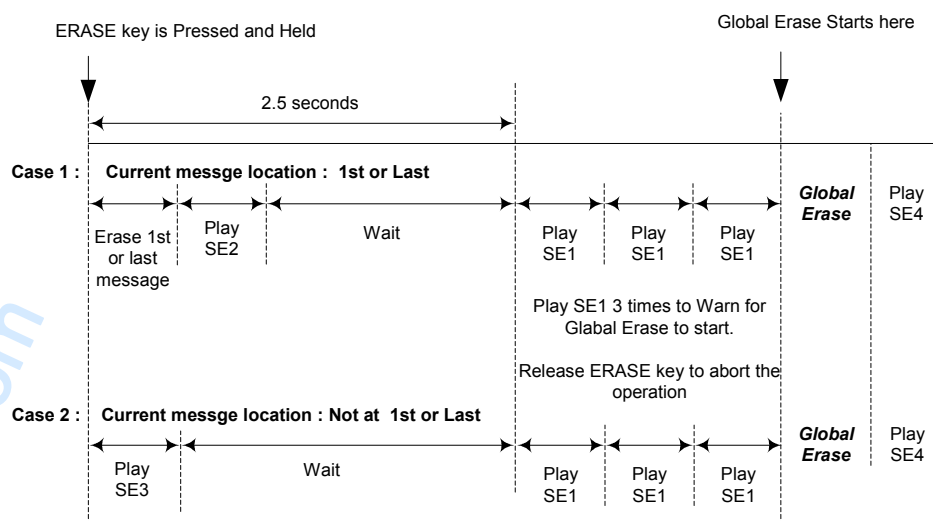

Figure 7.1: Global Erase Operation
b) **Global Erase**: Level-triggering this pin at Low for more than 2.5 seconds initiates the Global Erase operation and deletes all messages, except the SEs. If SEs are present, the device will play SE1 three times after **ERASE** is held for 2.5 seconds. If **ERASE** is not released during the playback of SE1, all messages will be erased, and the chip will play SE4. See Figure 7.1 for the operation details. The **ERASE** is debounced internally.